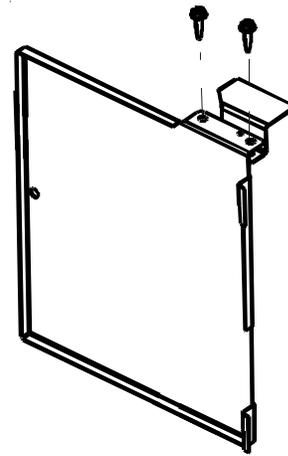

Figure 5
7. Attach the strike plate to the top of the vent door using the two #8 screws provided (Figure 5).